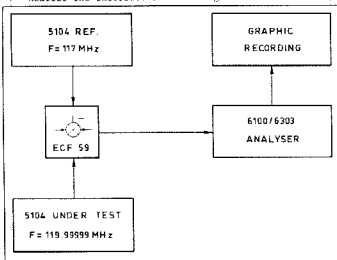

Figure VII-7 - Phase noise measurement
- Realize the interface shown in figure VII-7